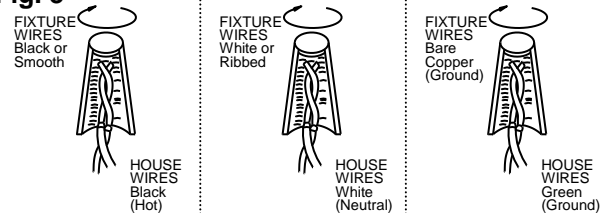

Fig. 4
9. Slide the canopy (D) over the screws (A), and secure with knurled knobs (E).
10. Dual options: Screw the acrylic rods (J) into the fixture body (Fig 1) or push end caps (N) into the fixture body (Fig 4).
11. Install (8) eight G9 bulbs (L) (included) up to 60 watts each, or CFL or LED equivalent, in accordance with the fixture specification — **DO NOT EXCEED THE MAXIMUM WATTAGE RATING! (NE PAS DEPASSER LA PUISSANCE NOMINALE MAXIMALE!)**.
12. Slide the glass shade (M) over the socket and bulb, then twist to secure it to the socket cup (K).